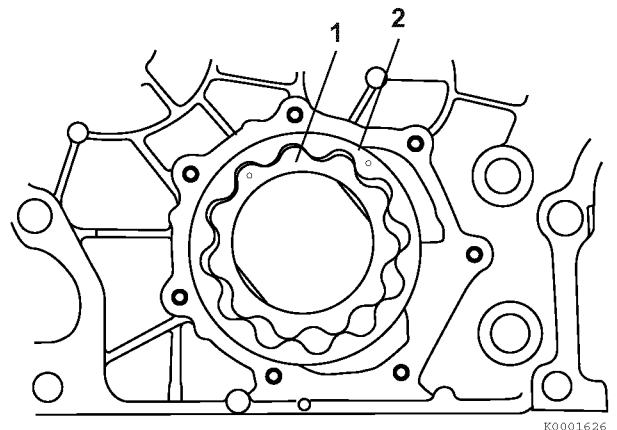

Figure 9-6
5. Remove the outer rotor (2, **Figure 9-6**) and inner rotor (1, **Figure 9-6**) from the gear case cover.